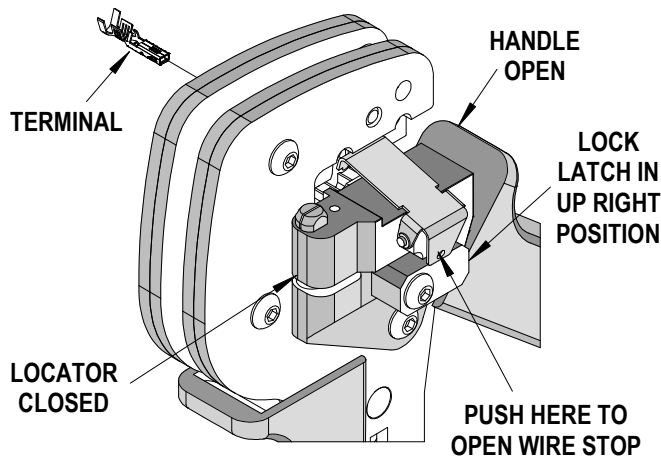
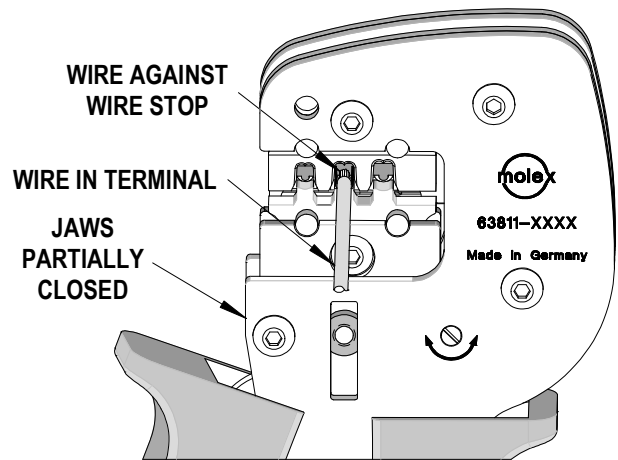

Figure 4
Figure 5
2. Swing the terminal locator away from the crimp tool shown in Figure 3. Some terminals with large insulation grips may interfere with the crimp tooling when swinging the locator into position. The terminal must then be loaded into the locator in the closed crimp position. See Figure 4.
3. Press down on the wire stop on the locator as shown in Figure 4. Insert the proper terminal into the proper nest opening. Make sure when choosing the nest opening, it will correspond with the profile on the hand tool. See Figure 5.
5. Insert the proper wire over the terminal. Gently touch the wire stop with the end of the wire. See Figure 5 and 6.